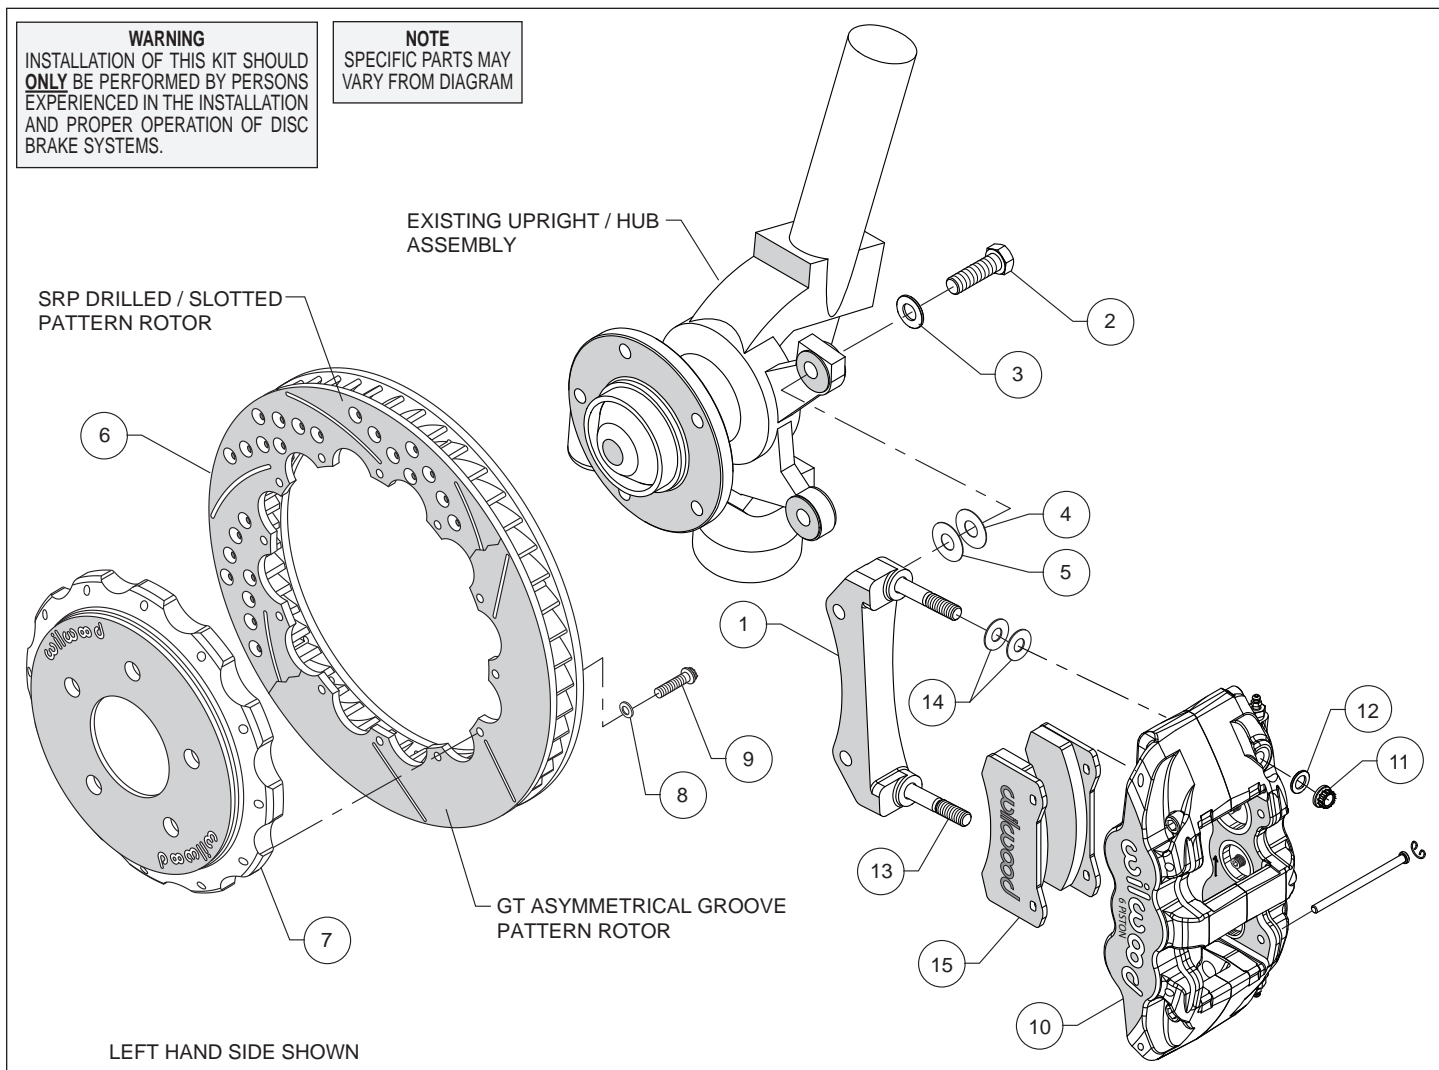
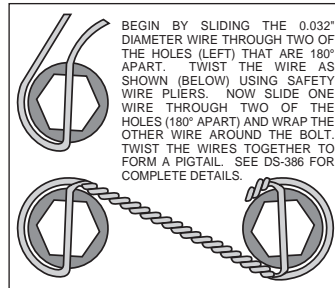

Figure 1. Typical Installation Configuration
Figure 3. Safety Wire Diagram
Assembly Instructions (numbers in parenthesis refer to the parts list and Figure 1 on the preceding pages):
- The caliper mount bracket (1) should initially be installed with clean, dry threads on the mounting bolts. Orient the bracket as shown in Figure 1 and Photo 1 and install using mount bolts (2) and washers (3). Initially place one each .033" thick shim (4), and .015" thick shim (5) on each bolt between the bracket and upright, Figure 1. Temporarily tighten the mounting bolts. **NOTE:** The bracket must fit squarely against the mount bosses on the upright. Inspect for interference from casting irregularities, machining ridges, burrs, etc. Later, after the caliper alignment has been checked, the mount bolts will be secured using red *Loctite*® 271.
- Orient the rotor (6) and the hat (7) as shown in Figure 1 and Photo 2. Attach rotor to hat using bolts (9) and washers (8). Using an alternating sequence, apply red *Loctite*® 271 to the threads and torque bolts to 155 in-lb. For an added measure of security, the bolts may be safety wired using standard 0.032 inch diameter stainless steel safety wire as shown in Figure 3. Please refer to Wilwood's data sheet DS-386 (available at www.wilwood.com/Pdf/DataSheets/ds386.pdf) for complete safety wire installation instructions.
- NOTE:** This kit contains distinct right and left hand calipers that must be mounted in a specific direction, as described below. Lubricate the caliper mounting studs (13) with lightweight oil. Initially place two .030" thick shims (14) on each stud as shown in Figure 1 and Photo 4. Mount the caliper (10) onto the bracket (1) using lock nuts (11) and washers (12), Figure 1. Ensure that the caliper is mounted so that the largest pistons are at the rotor exit end of the caliper, in relation to the direction of rotor rotation. Temporarily tighten the lock nuts and view the rotor through the top opening of the caliper. The rotor should be centered in the caliper, Photo 5. If not, adjust by adding or subtracting shims (4 and/or 5) between the bracket and the upright. Always use the same amount of shims on each of the two mounting bolts. Once the caliper alignment is correct, remove the bracket mounting bolts one at a time, apply red *Loctite*® 271 to the threads, and torque to 60 ft-lb.
- Remove the two pad retaining pins from the caliper (10) by carefully popping out the pin retaining clips and sliding out the pins. Insert the brake pads (15) into the caliper from the bottom, Figure 1 and Photo 6. With the friction material facing the rotor, secure the brake pads in place with the pad retaining pins and clips, Photo 7. Reinstall the caliper onto the caliper mounting bracket and temporarily tighten the lock nuts. Check that the top of the brake pad is flush with the outside diameter of the rotor, Photo 8. If not, adjust by adding or subtracting shims (14) between the caliper and the bracket. After the caliper pad height is set, torque the caliper lock nuts (11) to 47 ft-lb.